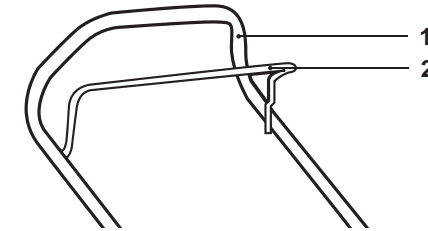

Fig. 11
1. Pull the brake bar (2) towards the handle (1) and hold it in position when starting the engine. Keep it squeezed during operation (Fig. 11).
2. Release the brake bar (2) to stop the engine.